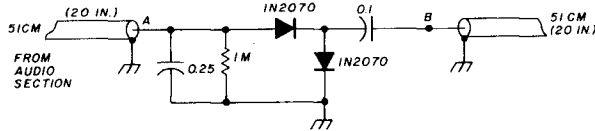

fig. 2. The ALC circuit built from instructions in the article.
8. Using a solder-lug terminal (4 or 5 lugs), build the ALC circuit shown in fig. 2. Be sure to use a terminal strip with a grounded mounting lug at one outer end.
9. Solder the outer end of the shielded cable coming from the audio section to point A in fig. 2. Attach another piece of shielded cable, about 51-cm (20-inches) long, to point B in fig. 2.
16. Connect point E to the shielded cable coming from point B in fig. 2. The final-amplifier wiring will now appear as in fig. 5.